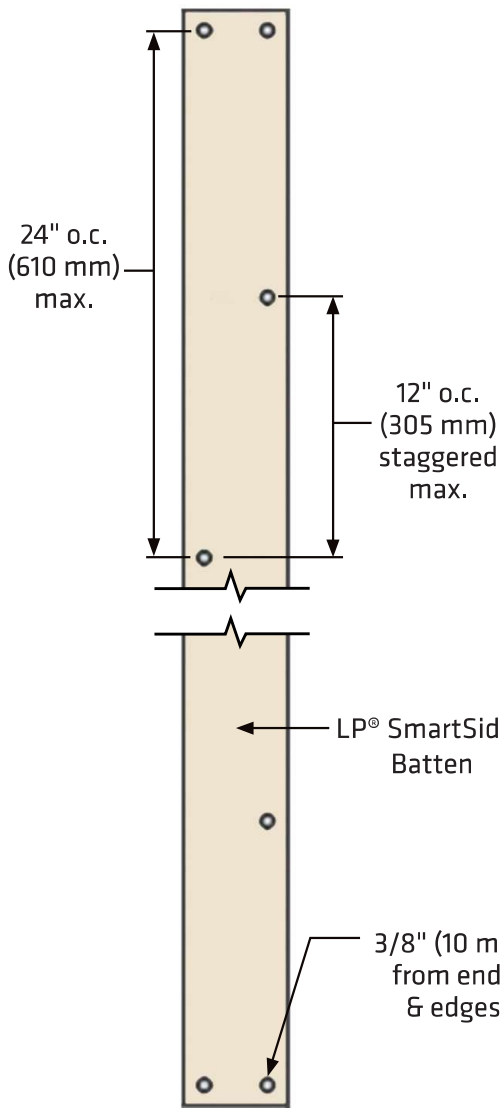

Figure 3a
- Maximum 3/8 inch (10 mm) from ends and edges *(See Figure 3a & 3b)*
- Fastened with two nails at both ends, with additional fasteners spaced a max. of 12 inches (309 mm) o.c. along alternating edges the length of the batten *(See Figure 3a)*